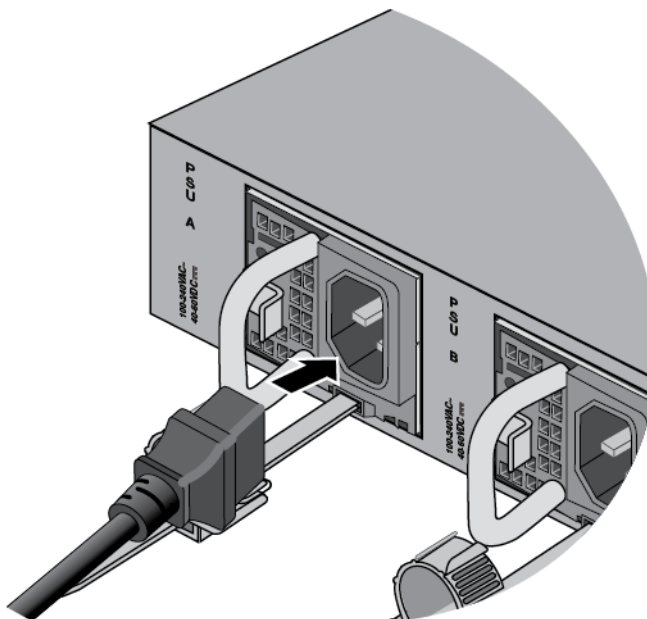

Figure 120. Connecting the AC Power Cord
1. Connect the AC power cord included with the power supply to the AC power connector on the rear panel of the chassis. If the switch has two power supplies, you only need to power on one of them to configure the switch. Refer to Figure 120.